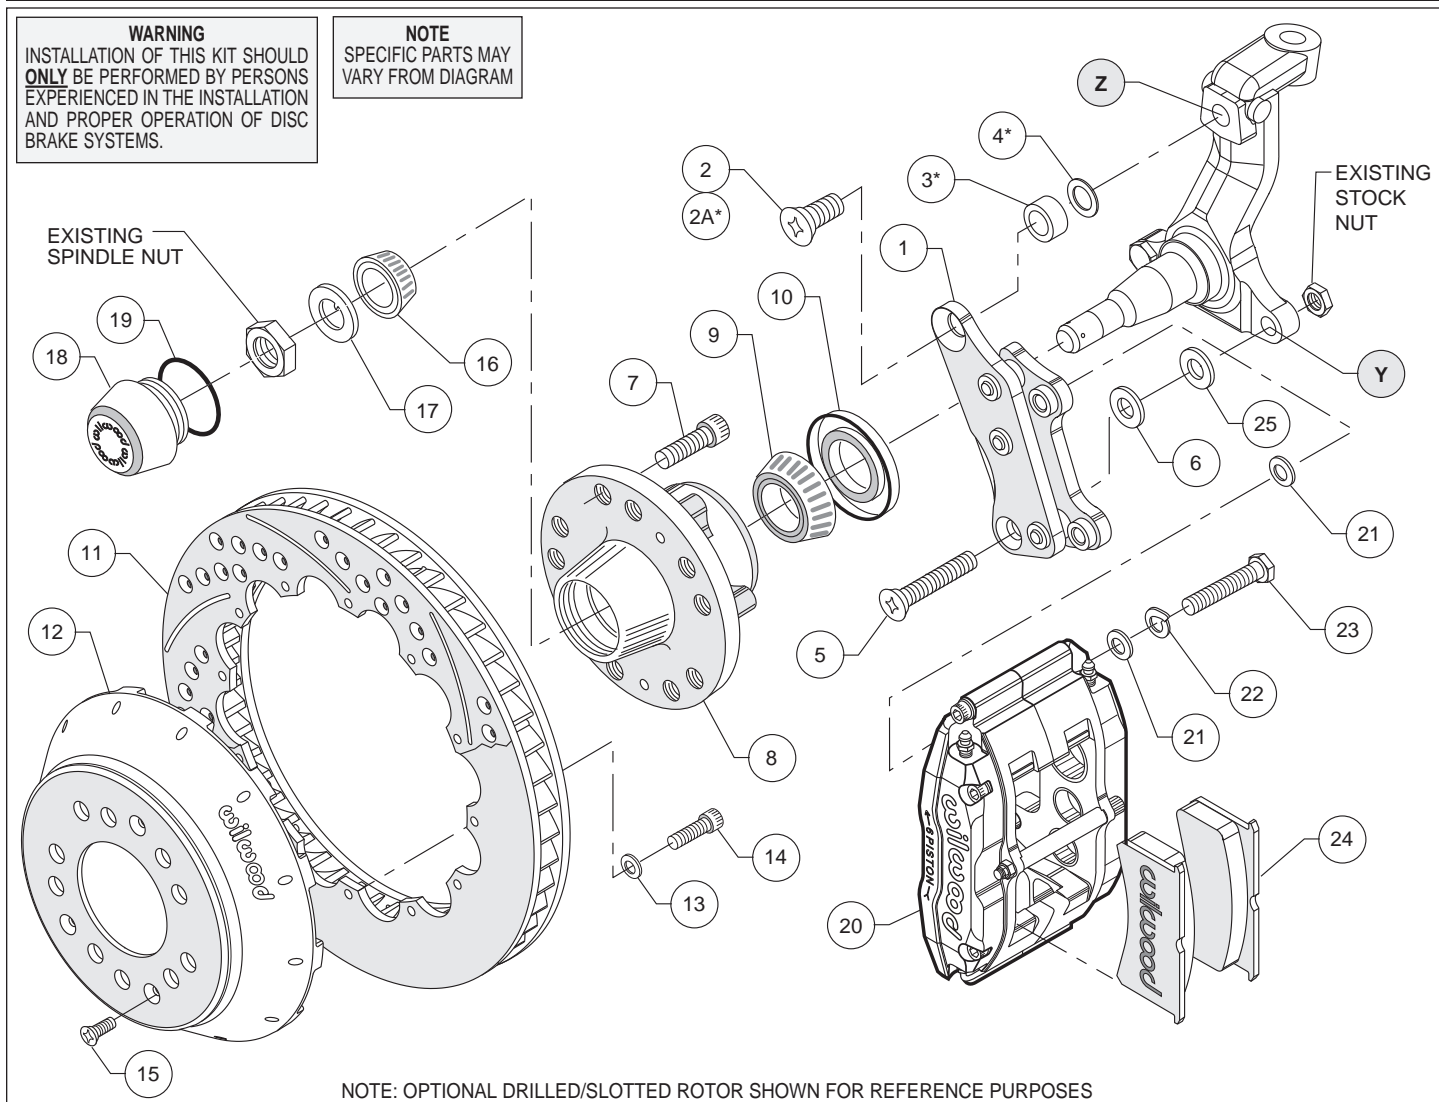
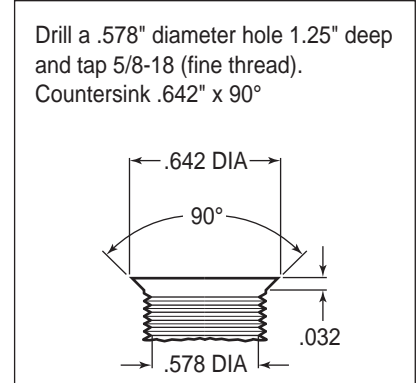

Figure 1. Typical Installation Configuration
Figure 3. Drill and Tap Detail
•**NOTE:** 1964-66 spindles may require the following modifications (reference Figure 1 and Figure 3): Top anchor pin hole (Z) must be drilled and tapped to the dimensions as outlined in Figure 3. Bottom rear steering arm bolt hole (Y) in the spindle and steering arm must be enlarged to .50" by drilling. A 1/2-20 backing nut (not supplied in kit) will need to be acquired to torque bracket / steering arm bolt (supplied in kit)
•**Disc Application:** Apply red *Loctite*® 271 to bolt threads (2A) before assembly of the caliper mounting bracket (1). Mount bracket (1) to face of dust plate mount pad of spindle using the bottom bolt (5) while positioning washer (6) and shim washer (25) "if needed for bracket flatness" between bracket and spindle face, finger tighten only. Install the upper bolt (2A) with spacer 3 and flat washer (4), ensuring flatness positioned between bracket and top hole of spindle face, torque to 120 ft-lb. Torque bolts (5) to 77 ft-lb. **NOTE:** Be sure the heads of the bracket (1) insert nuts are facing outward toward the wheel.
•**Drum Application:** Apply red *Loctite*® 271 to bolt threads (2) before assembly of the caliper mounting bracket (1). Mount bracket (1) to face of dust plate mount pad of spindle using the bottom bolt (5) while positioning washer (6) between bracket and spindle face, finger tighten only. Install the upper bolt (2), torque to 120 ft-lb. Torque bolts (5) to 77 ft-lb. **NOTE:** Be sure the heads of the bracket (1) insert nuts are facing outward toward the wheel.
•Install wheel studs (7) into the hub (8). Torque to 77 ft-lb. **NOTE:** There are two five lug patterns in the hub (5 x 4.50 and 5 x 4.75). Make sure of the correct hole pattern for the correct wheel application before installing studs into hub.
•Pack the large inner bearing cone (9) with high temperature disc brake bearing grease (available from your local auto parts store) and install into the backside of the hub (8).
•Install the grease seal (10) by pressing into the backside of the hub (8).
•With the larger I.D. side of the rotor (11) facing away from the hat (12), bolt rotor (11) to hat (12) through the backside of the rotor